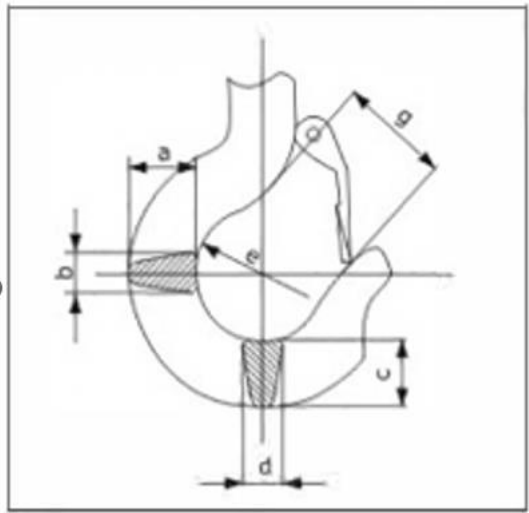

Figure 6.2
- Inspect hoist hook assembly checking for any cracks or distortion of the hook body and/or excessive wear. If the measured dimensions are 5% or more out of specification the hook assembly needs replaced. See figure 6.2 and table 6.2 for specifications.